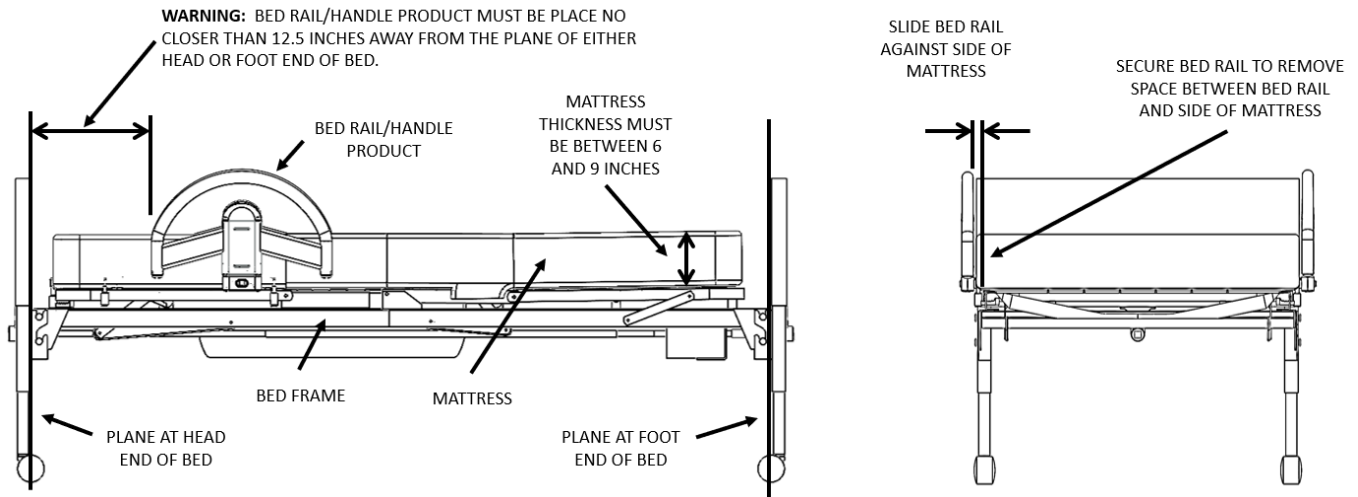

FIGURE 1
- **Product Position:** Keep the product at least 12.5 inches from the head and foot end plane of the bed to help prevent entrapment issues as shown in FIGURE 1.